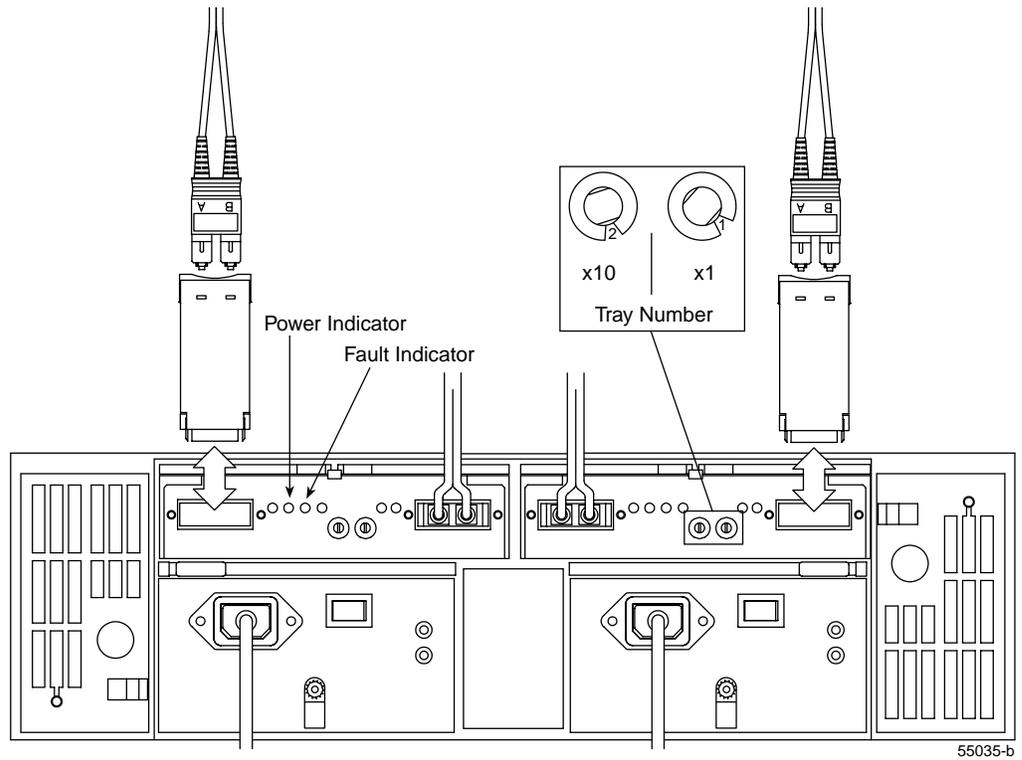

Figure 7-7 Removing GBICs from the Environmental Status Module
5. Remove the Fibre Channel cables from the GBICs in the failed canister, then remove the GBICs (Figure 7-7). Label each cable to ensure that all cables are properly reconnected to the new canister.
- Set the Enclosure ID Numbers on the new canister exactly as they are set on the failed environmental status module (Figure 7-7).
13. Check the Power and Fault indicators on the new canister (Figure 7-7).